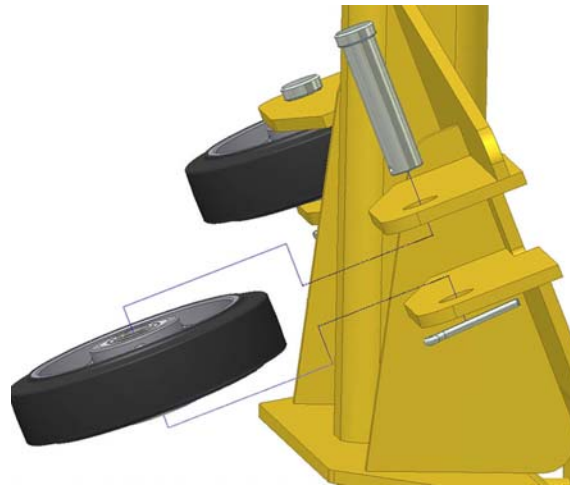

Figure 3
5. Install the four 8"x2" wheels by pinning the wheels into position with the provided 1" x 4" clevis pins and cotter pins. These wheels have sealed bearings and require no grease. See Figure 3.